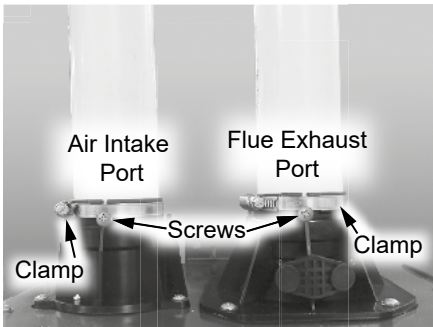

Figure 1 - Flue exhaust port and intake air port location
2 Locate the flue exhaust port and intake air port. See Figure 1.
3 Remove the two (2) screws securing the intake air and exhaust piping to the ports. Place the screws aside in a safe place for reinstallation. See Figure 1.
7 Locate the new clamps provided in the kit. Place a new clamp over the intake air port and the exhaust port. Note the orientation of the clamps. See Figure 1